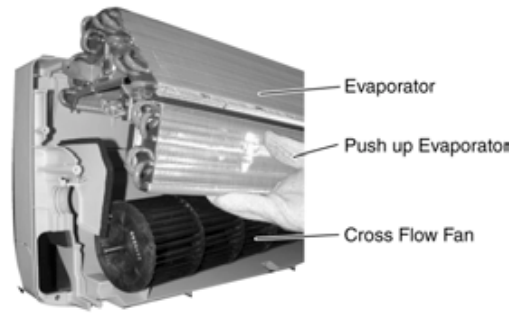

Fig. 9
8. Push up the Evaporator and pull out the Cross Flow Fan from shaft. By then, Fan Motor can be taken out. (Fig. 9)